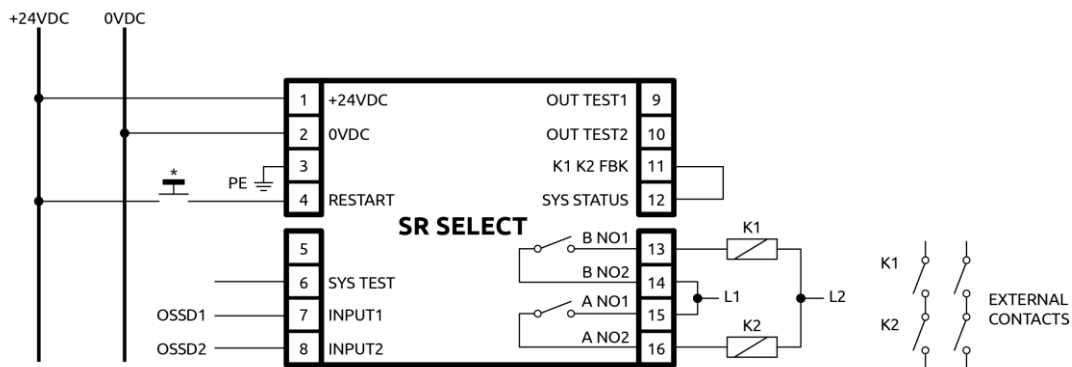

Figure 9
⚡ Without EDM it is mandatory to connect terminal 11 to terminal 12 (e.g. in Figure 9).
**⚡** Without EDM it is mandatory to connect terminal 11 to terminal 12 (e.g. in Figure 9).
-  Without EDM it is mandatory to connect terminal 11 to terminal 12 (e.g. in Figure 9).
*Following an example of 1A/1C mode wiring diagram without EDM (Figure 9)*